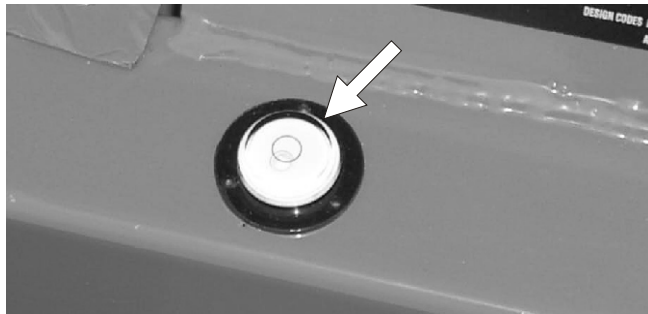
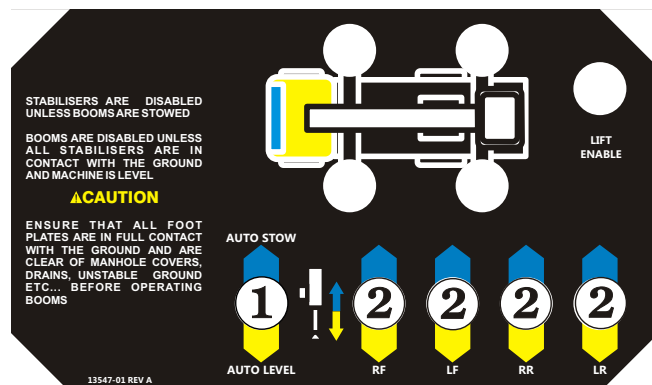

Figure 10.7
Figure 10.8 - Auto Level Controls
1. Operate each switch ② (see Figure 10.8) to raise or lower each stabiliser one (1) at a time. Use the level bubble (see Figure 10.7) to check the machine is level.